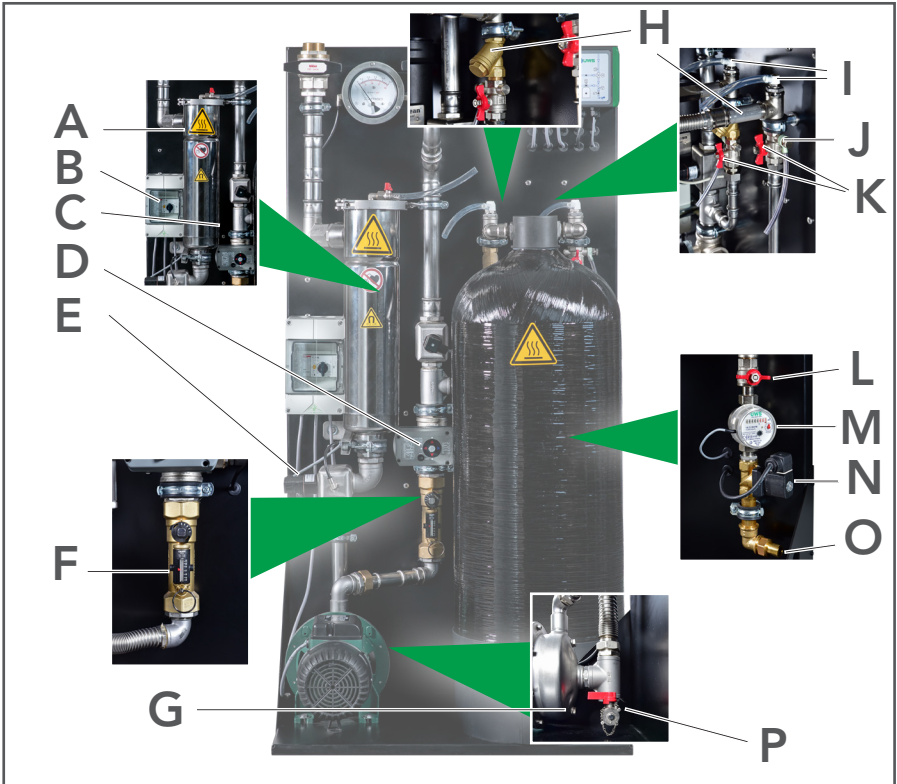

Fig. 3-2: Detailed views
- E Detail, see Fig. 3-2
- I Detail, see Fig. 3-2